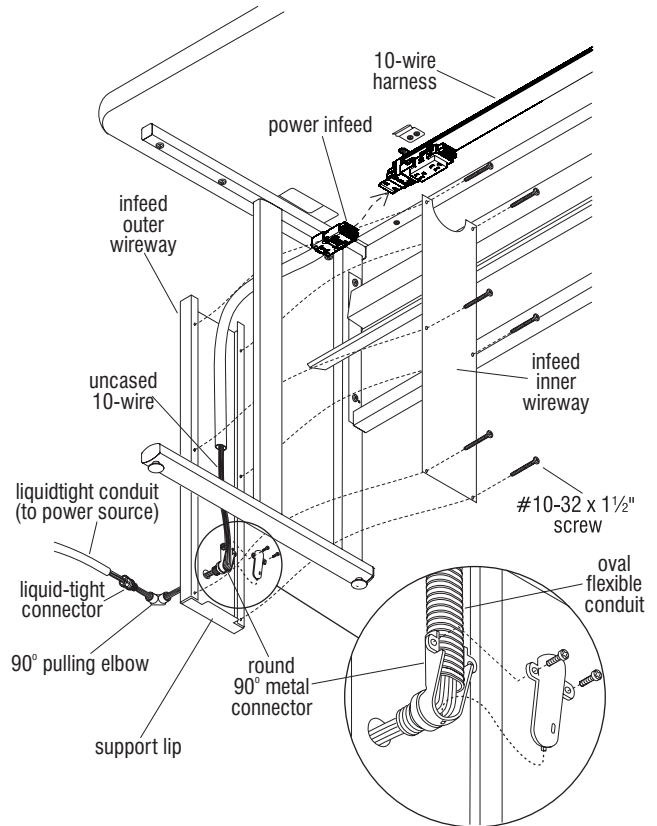

Figure 5
14. For 10-wire power infeed, position the flexible conduit between the vertical leg members and plug the power infeed connection into the 10-wire harness under the table. Route the uncased 10-wire through 90° metal connector and through the access hole of the infeed outer wireway. Lay the oval conduit flat (not on edge) into the bottom half of the round 90° metal connector. Assure the maximum amount of conduit is inside the fitting and connect the top half of the fitting to the bottom. Use screws supplied and assure that the two sections are properly connected, securely capturing the flexible oval conduit (Figure 5).
15. Route the uncased 10-wire through the 90° pulling elbow. Next screw or thread the 90° metal connector into the 90° pulling elbow, sandwiching the steel infeed panel. Slide the liquid-tight connector onto the 10-wires and connect it to the 90° pulling elbow (Figure 5).
16. Set the infeed outer wireway up against the outside of the vertical leg members with support lip resting on the foot of the leg. Position the infeed inner wire way up against the inside of the vertical leg members. Fasten infeed inner wireway to infeed outer wireway with six #10-32 x 1½" screws (Figure 5).
17. Determine the appropriate length for the liquid-tight conduit (to power source) and cut it to size. Slide the liquid-tight conduit onto the 10-wires and connect the conduit to the connector on the elbow. Finally the liquid-tight conduit may be fastened to a junction box (customer supplied) and the 10-wires can be cut to size and connected to the power source (Figure 5).